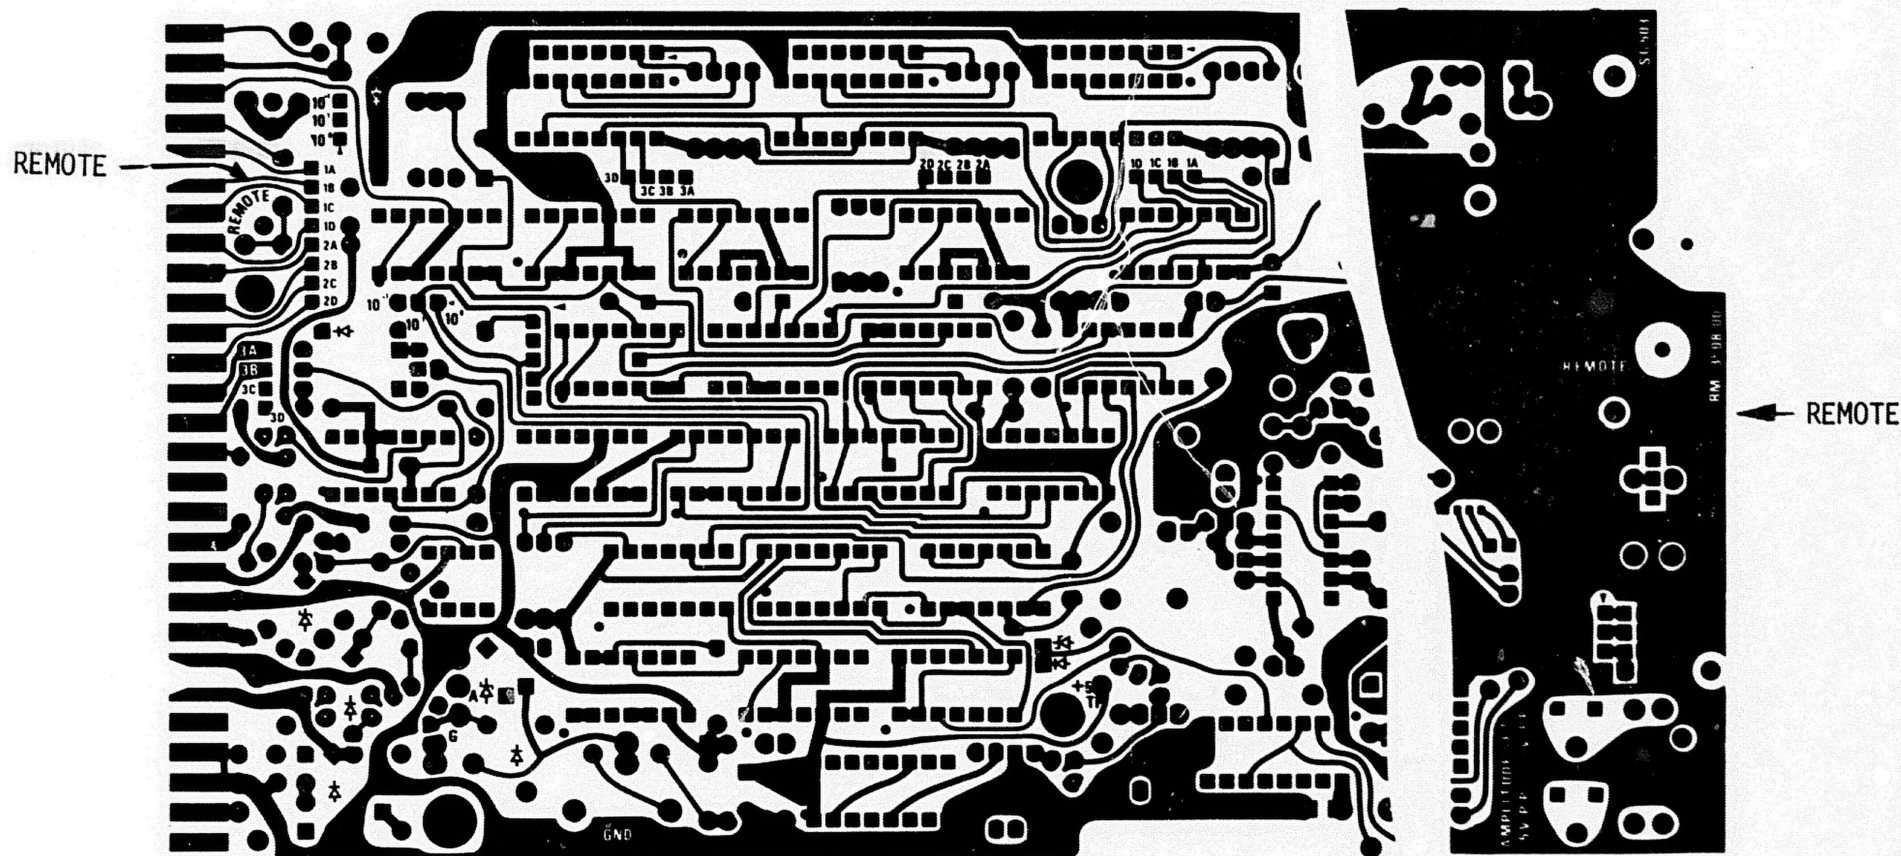

FIG. 1 - PARTIAL MAIN CIRCUIT BOARD (FRONT)
- ( ) 1. Install two Peltola connectors (coax receptacle w/pin connector socket) in the locations labeled 'REMOTE'. One is at the front of the Plug-in between the FREQUENCY RANGE Switch and the VARIABLE FREQUENCY Control and the other is near pin 21 of the interconnect connector. See Fig. 1.